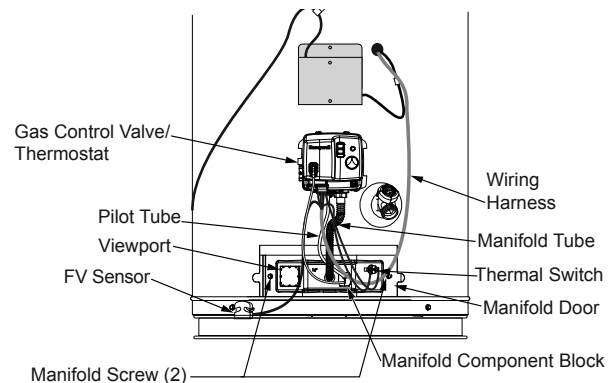

FIGURE 24.
4. Remove the two screws (1/4" nut driver) securing the manifold door assembly to the combustion chamber (Figure 24).